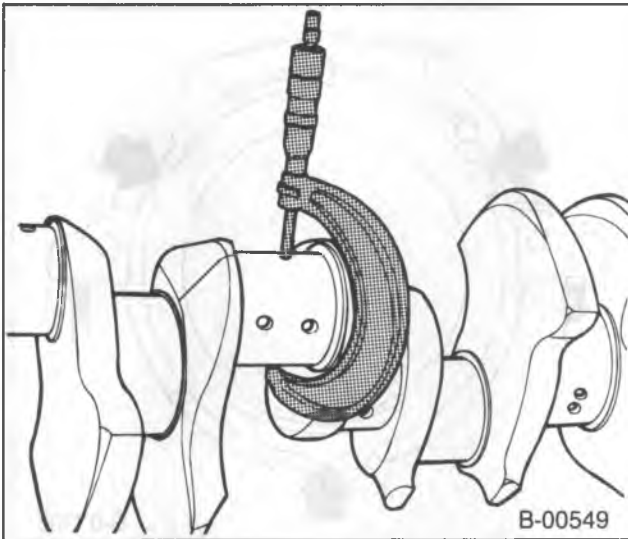

Figure 47—Measuring the Crankshaft Journals
Measure (Figures 47 and 48)
- Main bearing and connecting rod journal diameters (figure 47). Compare with
- Main bearing and connecting rod journals for taper and out-of-round (figure 47). If the journals are tapered or out-of-round more than 0.001-inch, grind or replace the crankshaft.